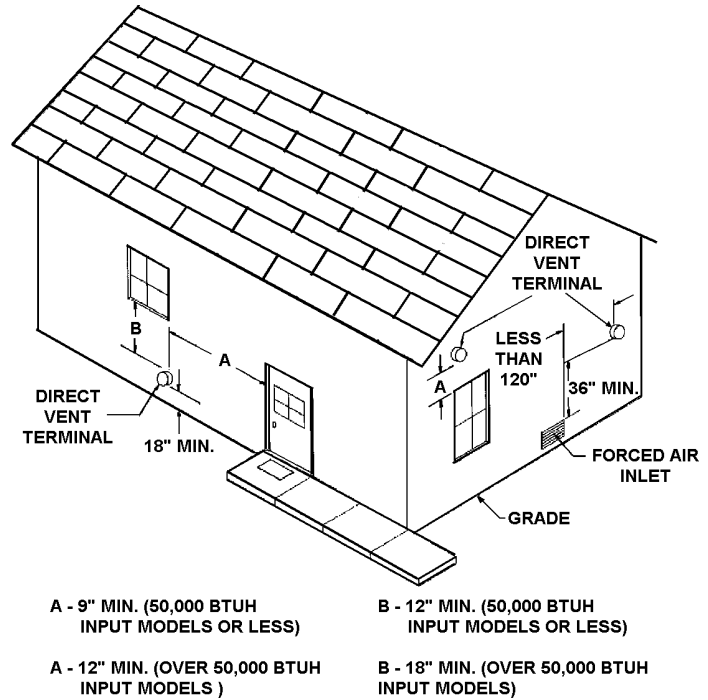

FIGURE 5
- The direct vent terminal shall terminate at least 3 feet above any forced air inlet located within 10 feet. Figure 5.